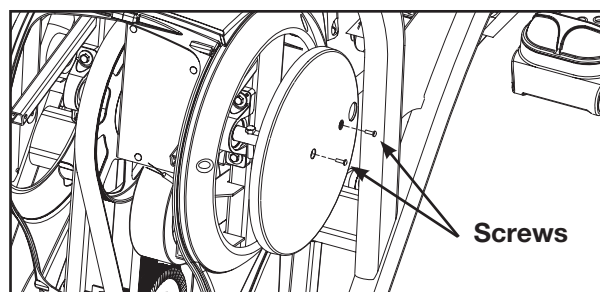

Figure 7
A. Using a Phillips screwdriver, remove the screws securing the crank covers and remove. See Figure 7.
- A. Using a Phillips screwdriver, install the screws (removed in step 15A) securing the crank covers. See figure 7.